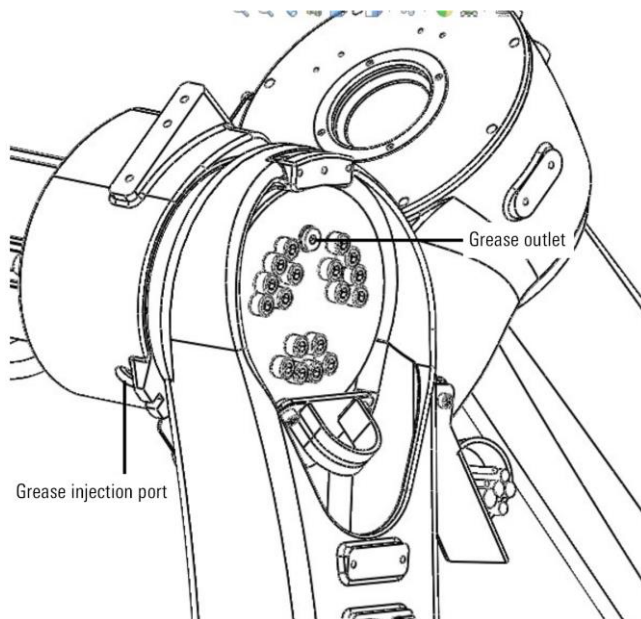

Figure 12-6 Replace the lubricating grease of J3 axis reducer
- Step4. Remove the M10x1 plug from the grease outlet, as shown in Figure 12-6.